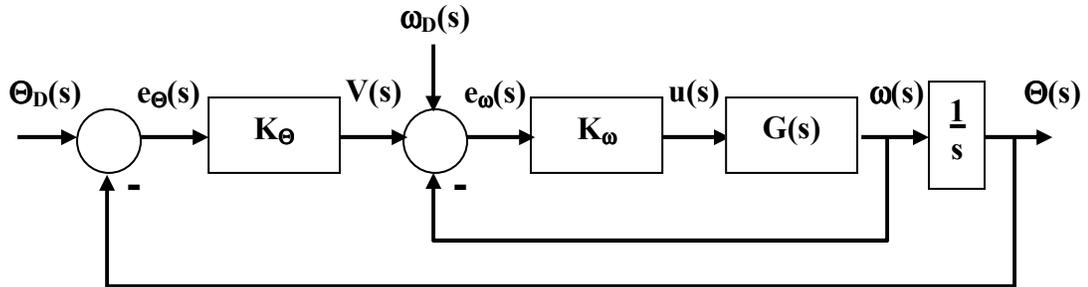

Figure 4: Two Loop Cascade Velocity Feed Forward Controller
- a) Connect this smooth “S-curve” Position Set Point Profile as input to the position summation block of the Two Loop Cascade Position Controller. Connect the Triangle Velocity Set Point Profile as an additional positive input to the velocity summation block of the Two Loop Cascade Position Controller. See Figure 4. Make the position set point step change equal $1080^\circ = 3$ revolutions, make the profile start two seconds after $t = 0$ so that you can observe it on the actual mechanism, and use a two-input **MUX** block feeding a scope block so you can observe both the set point change and the response on the same scope. Once you think you have the proper set-up, **ASK THE INSTRUCTOR TO CHECK IT OUT BEFORE APPLYING POWER TO THE MECHANISM.**